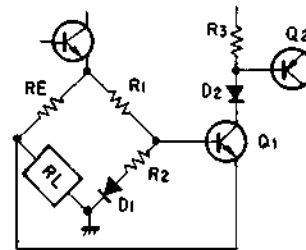

Fig. 4-3 Overload detector
The overload detector circuit incorporates the load (RL) in one side of a Wheatstone bridge (see Fig. 4-3). The base and emitter of a sensing transistor (Q_1) are connected to the opposite corners of the bridge, so if RL decreases, Q_1 will become forward biased. If RL falls below a prescribed value, Q_1 will turn on, thereby passing a current through R_3 and D_2 . Due to the voltage difference generated across R_3 , Q_2 will become forward biased, and consequently turn on. C_2 will rapidly discharge. As consequence, Q_3 will turn on and the relay will become de-energized, thus causing the output circuit to open.